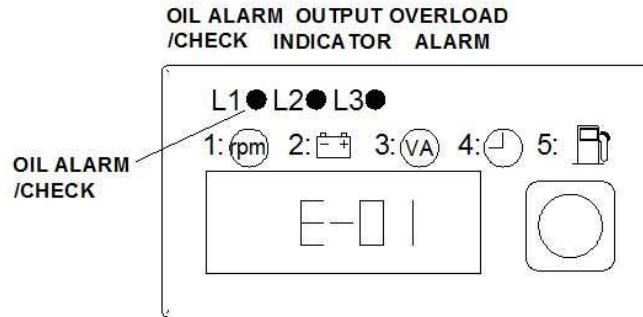

Figure 24
(6) Figure 24 is the system fault code display. When the generator appears system fault, the displayer shows word like "E-01" (see figure 24). If the generator still run